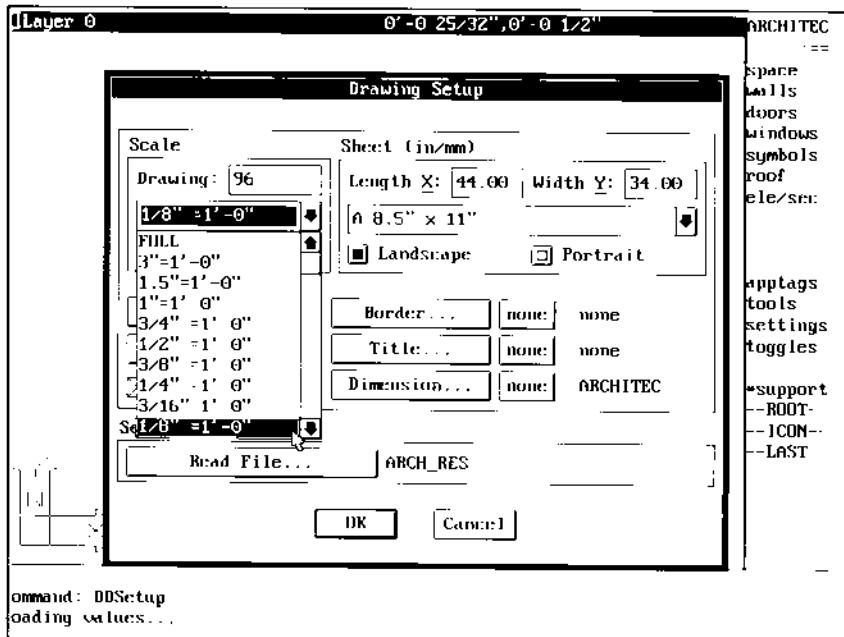

Figure 7.
11. Set the drawing scale at 1/8"=1'-0" by entering 96 in the Drawing: edit box, or expanding the popup list as shown in Figure 7. (The value 96 = 1 foot divided by 1/8".)